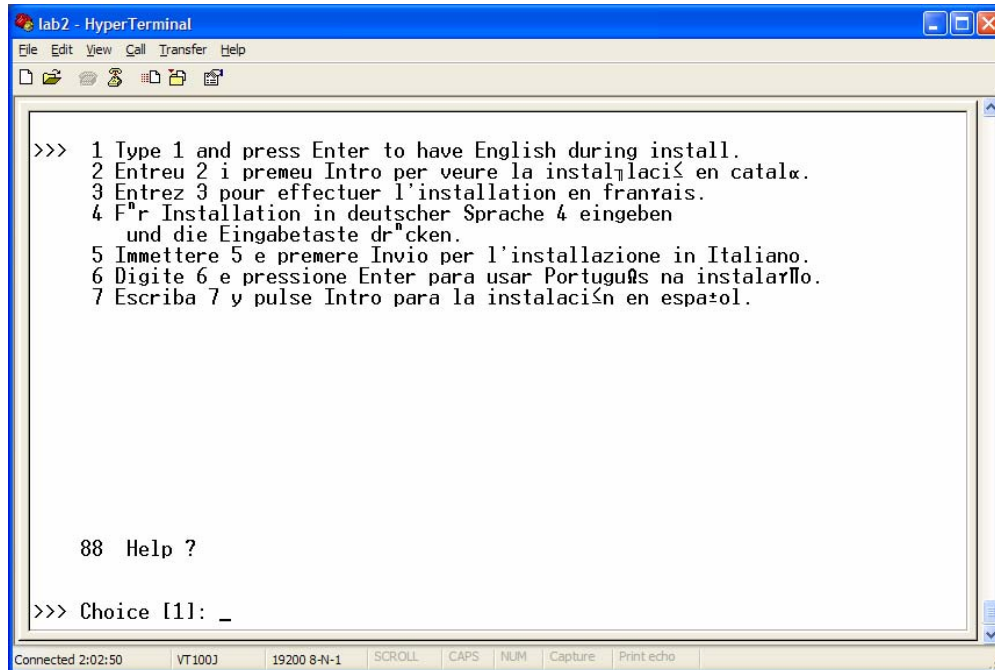

Figure 31. Choosing the language for this AIX instance
3. In the next screen (see Figure 31), type the number corresponding to the language in which you want this AIX instance and Virtual I/O Server to display messages.